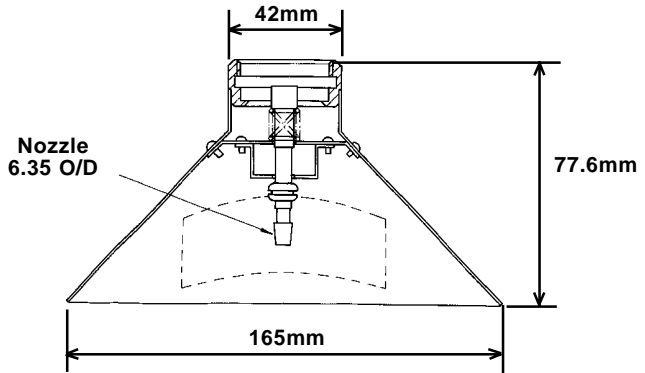

Figure 2 Collecting Cone
- a. Collecting Cone (Figure 2).